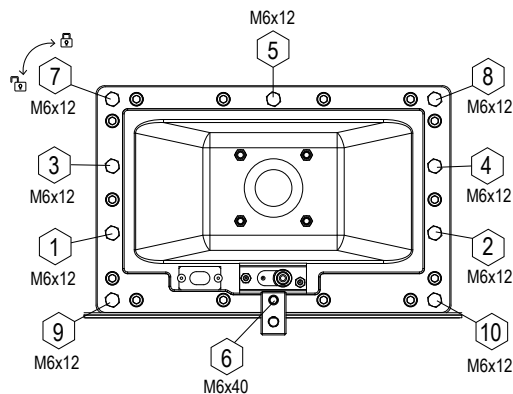
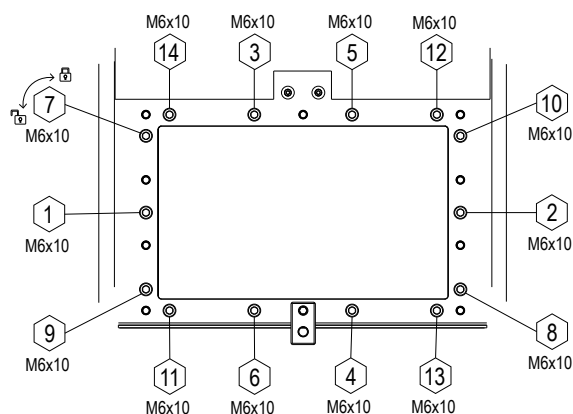

Figure 17: Torque Sequence for the Burner
Figure 18: Torque Sequence onto the Primary Heat-exchanger
10. Apply nickel anti-seize lubricant (Loctite® LB 771™ or equivalent) to the M6×14 hex-head bolts before assembly. Install with M6 lock washers. Wipe off excess lubricant. Torque the bolts to 4 in·lb (0.5 N·m). Refer to Figure 17 on page 63 and Figure 18 on page 63.